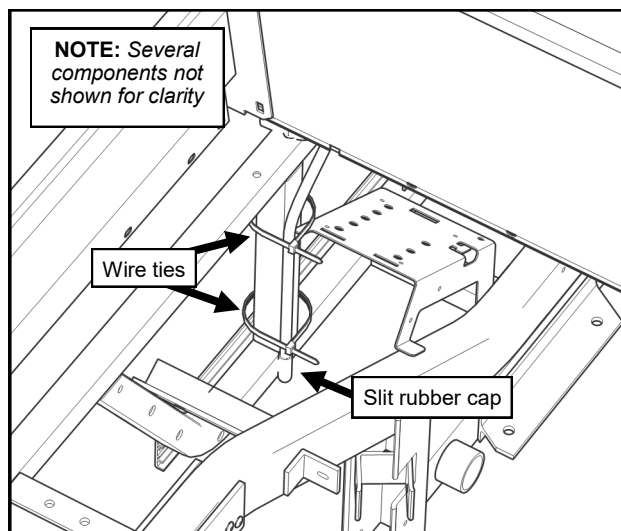

Fig. 6.3 (Left drain routing, view from rear)
- 6.3** Route the left side drain tube along the same path as the right, with the drain tube attached to the vertical frame rail behind the relay box under the seat. See Figure 6.3.